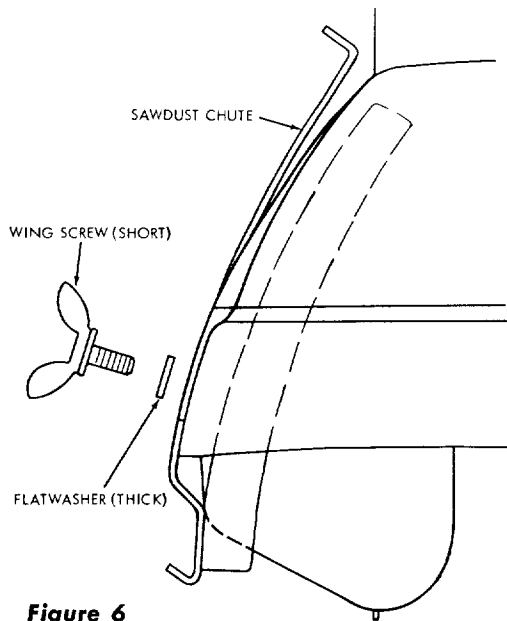

Figure 6
- Place the sawdust chute in position at rear of guard. (See figure 6.)
- Install the wing screw (short) and (thick) flat washer (figure 6) and tighten the wing screw to hold the chute temporarily in place. The chute is adjusted to just clear the surface of the board during ripping operations.